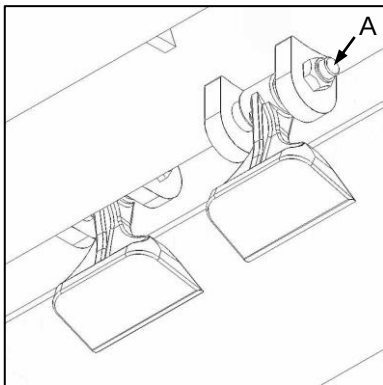
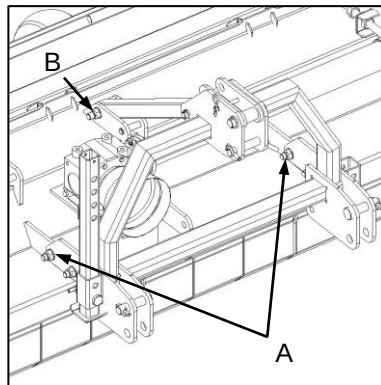
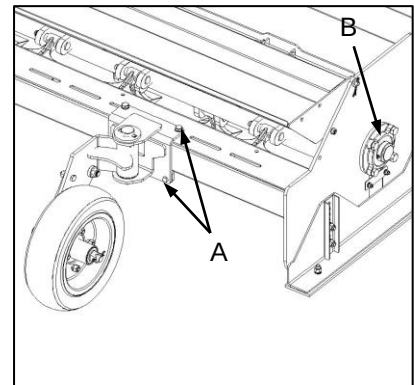

Fig. 4
Fig. 5
Fig. 6
- ✓ Check all fasteners for tightness. Pay special attention to safety-critical fasteners such as blade bolts and nuts (Fig. 4-A), hitch frame mounting bolts (Fig. 5-A / B), rotor mounting bolts (Fig. 6-A) and wheel mounting bolts (Fig. 6-B).
- ✓ Verseker dat alle hegstukke vas is. Gee spesiale aandag aan veiligheidskritieke hegstukke soos lemboute en lemmoere (Fig. 4-A), haakraammonteerboute (Fig. 5-A / B), rotormonteerboute (Fig. 6-A) en wielmonteerboute (Fig. 6-B).